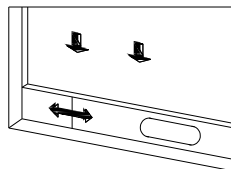
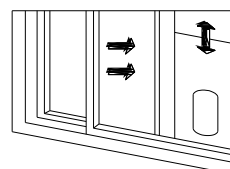

Figure2
Figure3
- 1) Half open the window, and mount the window sealing plate assembly to the window (as shown in Figure 2 and Figure 3); the assembly can be placed in horizontal and vertical direction.